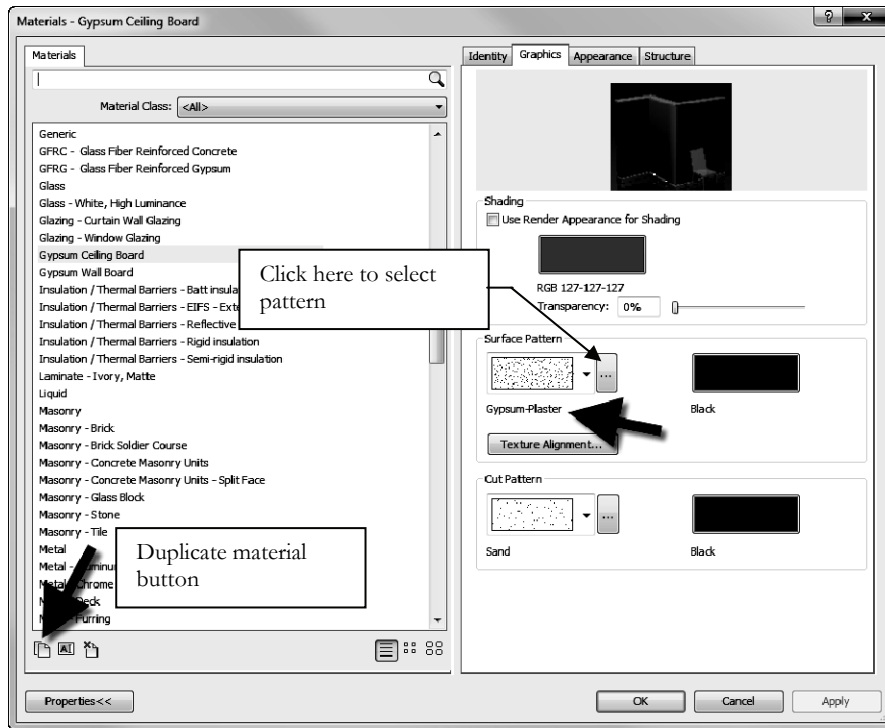

FIGURE 7-4.8 Materials dialog
14. Select *Gypsum Wall Board* in the *Name* list and then click the **Duplicate** button and enter the name: **Gypsum Ceiling Board** (see Figure 7-4.8 and image to right).
15. In the *Surface Pattern* area, pick the button and select **Gypsum-Plaster** from the list, and then click **OK** (Figure 7-4.8).